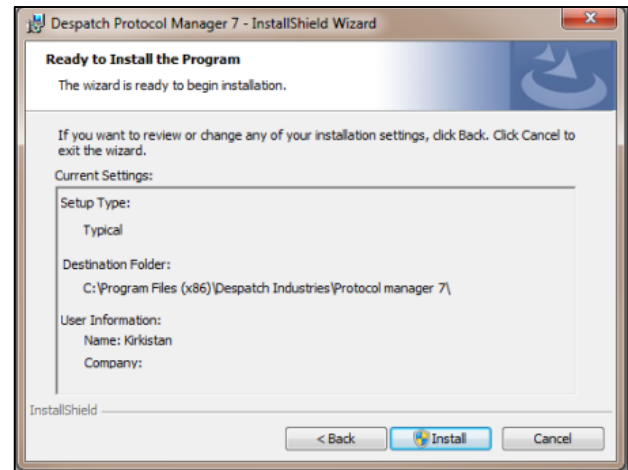

Figure 8. Install Screen.
10. Click **Next** to continue to the final to the Install screen (Figure 8)